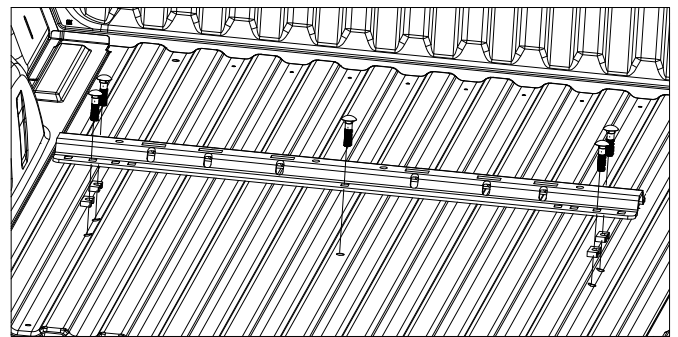

Figure D1: View looking into truck bed from rear of truck.
1. **Install the rear mounting rail.** Reposition the rear mounting rail over the drilled 9/16" holes in the bed. Install a 1/2" x 2" carriage bolt through the mounting rail into each of the five drilled holes, as shown in Figure D1. Position the U-shaped spacers.